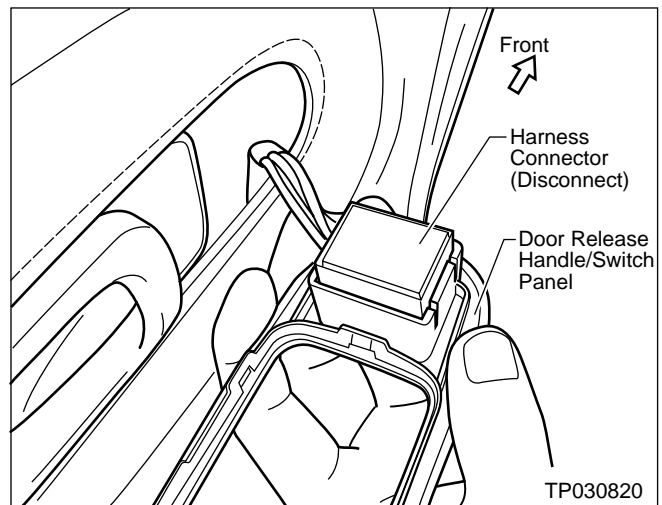

Figure 42
4. Disconnect the Vehicle Harness from the Door Release Handle/Switch Panel (see Figure 42).